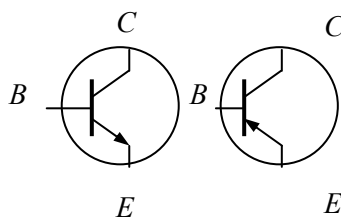

Fig. 1.20
Basic topologies. Fig. 1.20 presents schematic symbols of *nnp* and *pnp* transistors. There are three different currents in a transistor: emitter current I_E , base current I_B , and collector current I_C . Accordingly, the three *basic schemes* of the transistor connection in electronic circuits are usually discussed: *common emitter* (CE) connection, *common base* (CB) connection, and *common collector* (CC) connection.